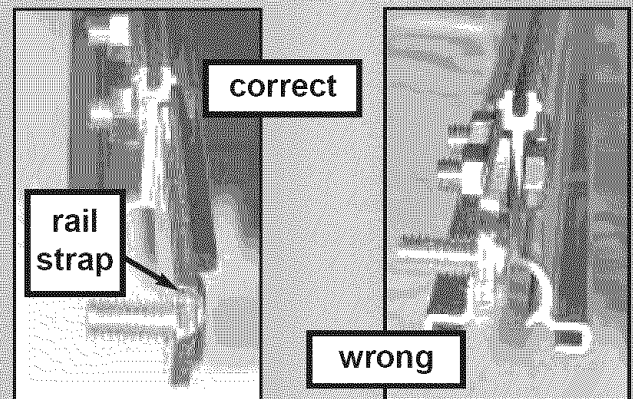

Fig. 1-16
- Place rail strap against end of rail so that attached stud passes in front of end of rail. **Fig. 1-16.**